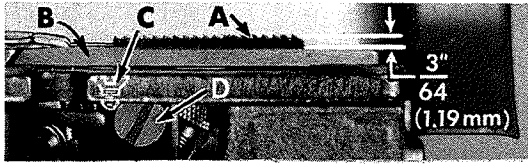

Fig. 9
Set the feed dog (A, Fig. 9) in the throat plate (B) so there is equal clearance on all sides. See that the tips of the teeth extend the depth of a tooth or approximately  $\frac{3}{64}$  inch (1.19 mm) above the throat plate at high point of travel. Adjust the support screw (C), under the feed dog, to maintain this setting. Screw (D) is used to hold feed dog in position.